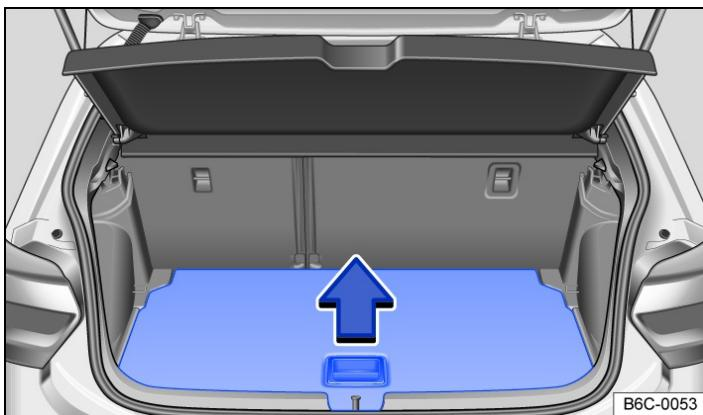

Fig. 1 In the luggage compartment: opening the luggage compartment floor.
- Grip the recessed handle in the luggage compartment floor and lift it upwards → *Fig. 1*.